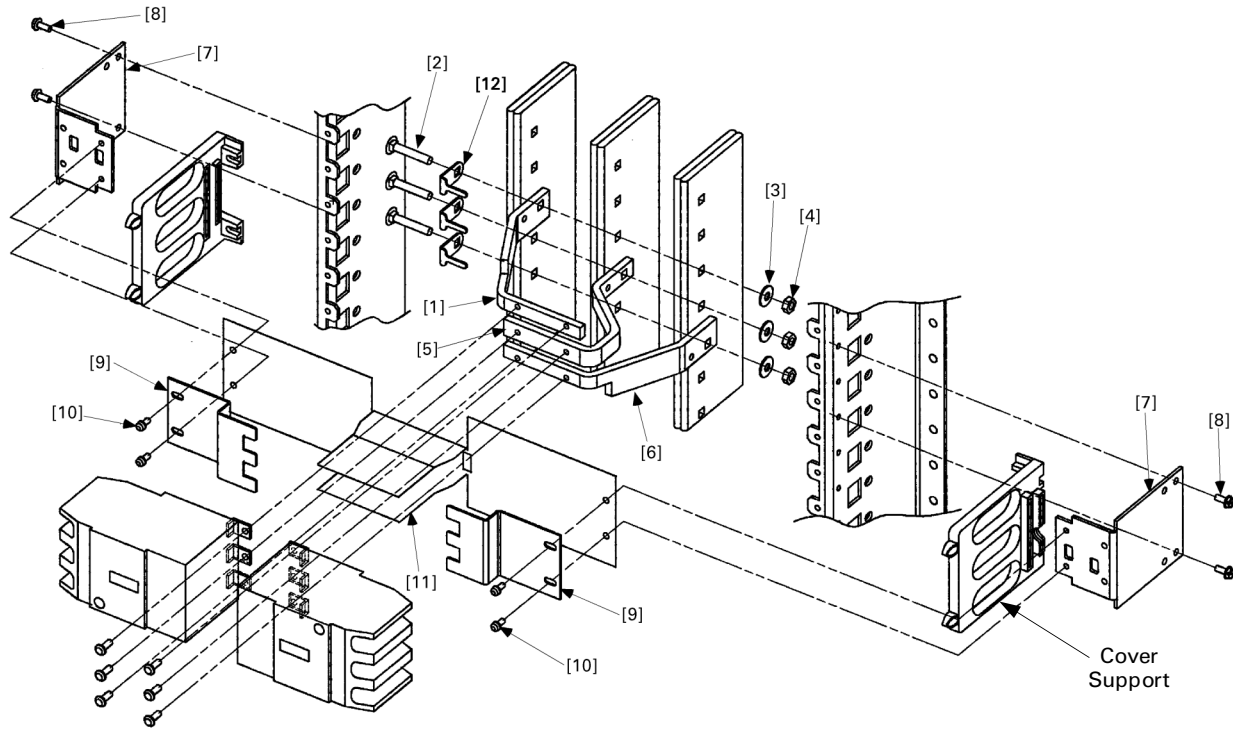
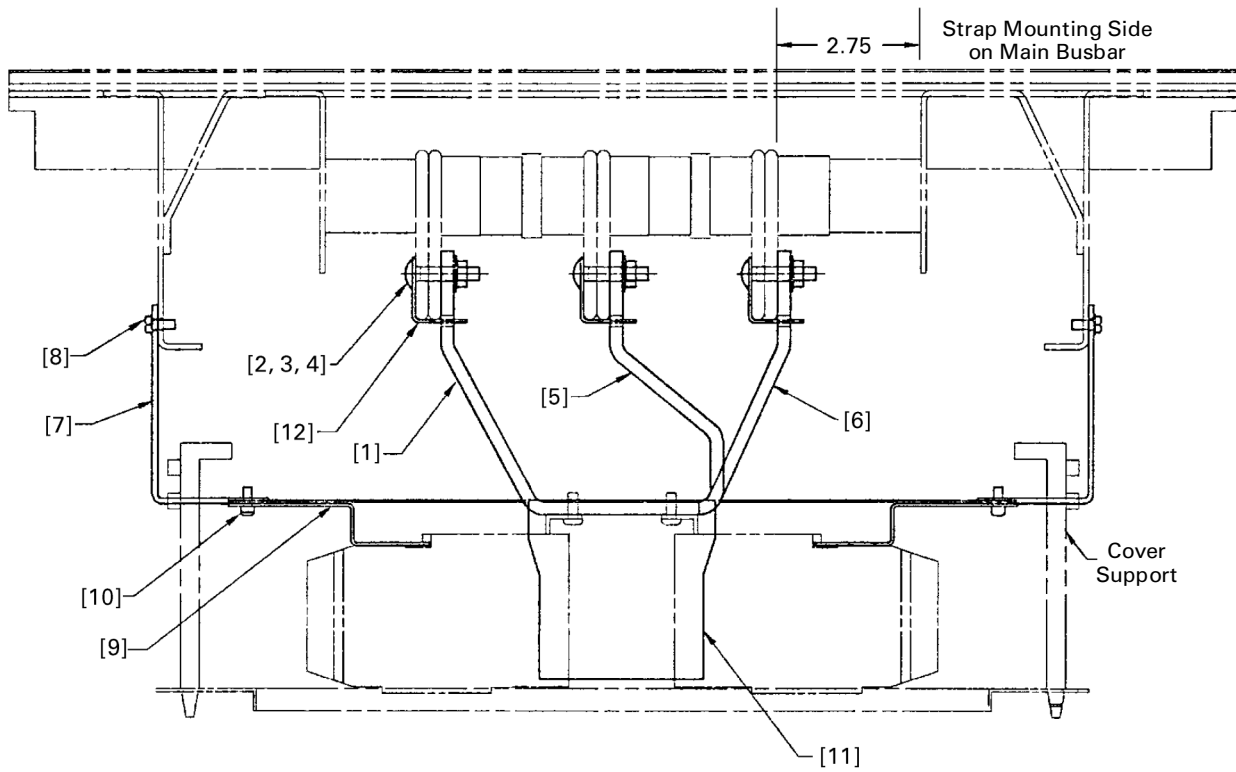
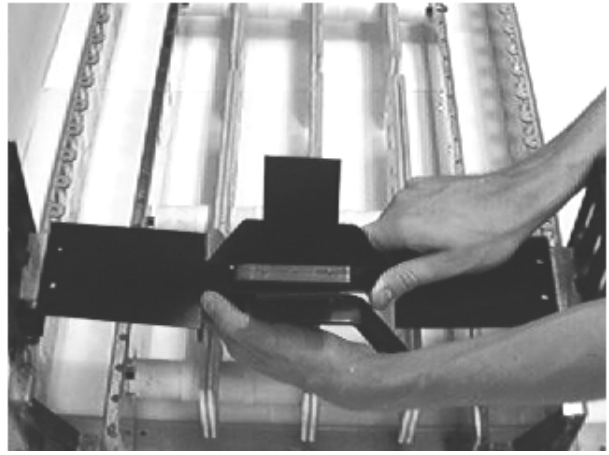

Figure 1. Mounting TEY circuit breakers into Spectra APNB bolt-on interiors.
Figure 2. Mounting TEY circuit breakers into Spectra APNB bolt-on interiors, assembly end view.
Figure 3. Installing the B-phase isolator.
2. **Locate the side of the interior with a 2.75-inch reference distance.** The circuit breaker straps are mounted on the side of the panel interior bus at which the distance from the nearest vertical bus face to the inner face of the bus-support rail is 2.75 inches, as indicated in Figure 2.
3. **Install the circuit breaker straps.** For three-phase applications (kit AMCB6EY), install the straps beginning with the pole farthest from the 2.75-inch dimension, as shown in Figures 1 and 2. Slide an antiturn clip [12] over the square shank of a carriage bolt [2], then insert the bolt assembly into the A phase bus, with the head opposite the 2.75-inch dimension. Position the square hole of the A pole strap [1] onto the bolt, with the pin of the antiturn bracket inserted into the small hole in the strap. Secure with a conical spring washer [3] and nut [4], leaving the connection finger tight. Repeat the process for the B pole strap [5] and C pole strap [6].
For single-phase panels, dc applications, and phase-balancing purposes (kit AMCB4EY), Table 2 lists the possible configurations. Align the appropriate strap assemblies [1, 5, 6] with the corresponding holes in the vertical bus, as shown in Figures 1 and 2. Fasten each strap assembly loosely to the vertical bus with a carriage bolt [2], conical washer [3], and nut [4], as described for the three-phase kit. When installing any of the two-pole strap configurations in Table 2, be sure to install the straps in standard phase-rotation order. When installing a two-pole and a three-pole breaker in a double-branch assembly, arrange the straps in the typical three-pole configuration, as shown in Figure 2.
4. **Install the lower circuit breaker mounting brackets and cover supports.** Attach the lower breaker mounting brackets [7] to the panel side rails with the thread-forming screws [8], as shown in Figure 1. Tighten the screws to 35 in-lb. Slide the cover supports (included in the breaker cover kit), with the mounting tabs oriented inward, onto each bracket until they snap into place, as shown in Figure 1. Use the uppermost slot on the cover support body. Cover supports can be easily removed by inserting a screwdriver blade into the slot on the underside of the mounting bracket assembly and gently prying downward while pushing the support off.
Align the free ends of the B-phase isolator [11] with the corresponding #8 threaded holes on the top face of the lower mounting brackets, as shown in Figure 3. Place the upper mounting brackets [9] on top of the isolator ends and align them with the holes, as shown in Figure 1. Secure the resulting assembly with the #8-32 screws with lockwashers [10], leaving the screws fingertight. Slide the brackets to their outermost positions.